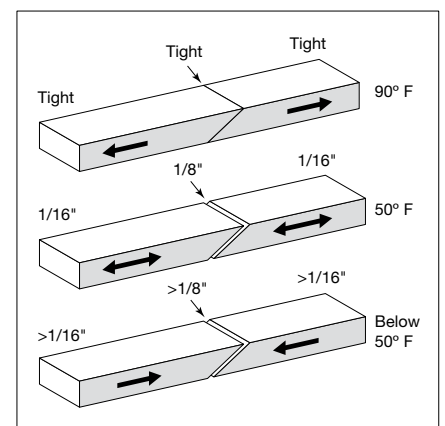

Fig. 3
- On cold days (temperatures below 50° F), increase expansion space between boards to slightly more than 1/8" per 18' length (Fig. 3).
- On hot days (temperatures at or above 90° F), eliminate the expansion space and butt the pieces together tightly (Fig. 3).